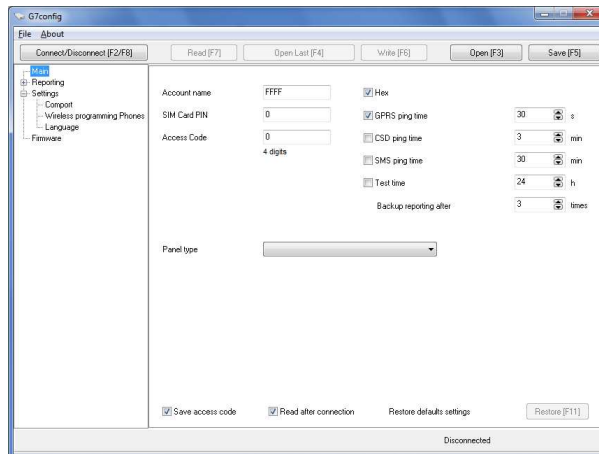

Figure3 View of window when G7config starts
7.1.1 Run the configuration program *G7config* by clicking its icon. Window opens as in the *Figure 3*.